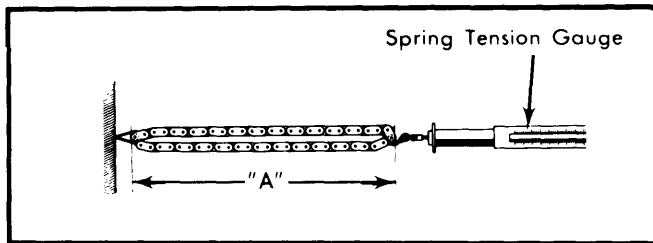

Fig. 5 Checking Timing Chain Elongation Using Spring Tension Gauge
- 3) Secure 1 link of timing chain and attach spring tension gauge to opposite end. See Fig. 5. With 11 lbs. (5 kg) tension applied to chain, distance "A" should be no more than 10.7" (272 mm). If distance is more than specified, replace chain.